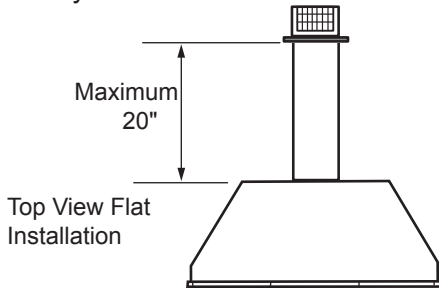

Figure 14 - Rear Vent Application, Maximum Horizontal Distance
- The maximum horizontal distance between the rear of the appliance and the outside of termination is 20" (508 m). *Figure 14*